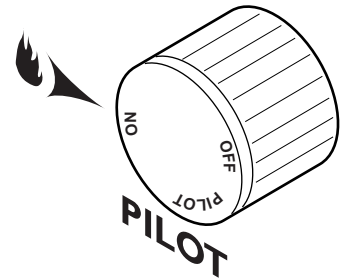

Figure 42 - On Position
Depress and turn the knob counterclockwise  to the “ON” position. *See Figure 42.* It will take less than four (4) seconds for the burner to ignite.